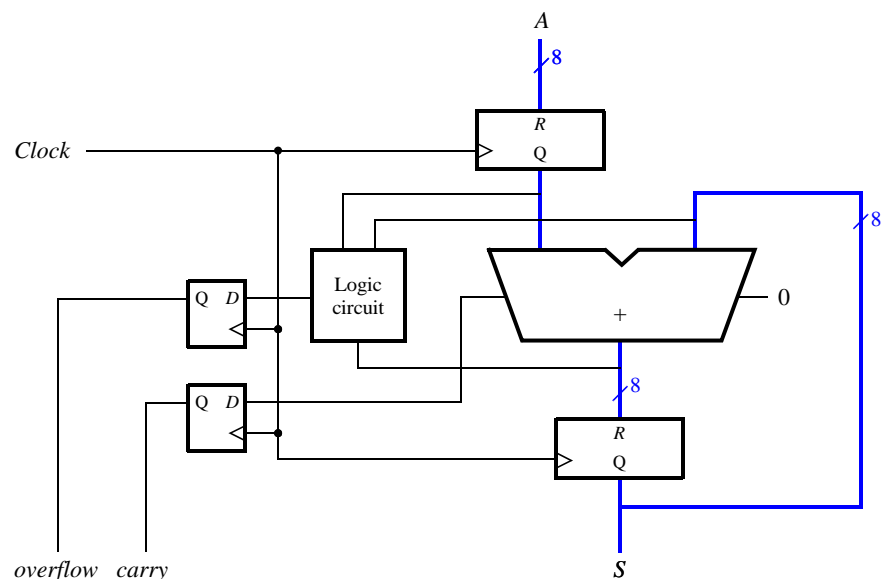

Figure 2: An eight-bit accumulator circuit.
Use this construct to implement a circuit shown in Figure 2. This circuit, which is often called an *accumulator*, is used to add the value of an input A to itself repeatedly. The circuit includes a carry out from the adder, as well as an *overflow* output signal. If the input A is considered as a 2's-complement number, then *overflow* should be set to 1 in the case where the output sum produced does not represent a correct 2's-complement result.
1. Create a new Quartus II project. Write Verilog code that describes the circuit in Figure 2.